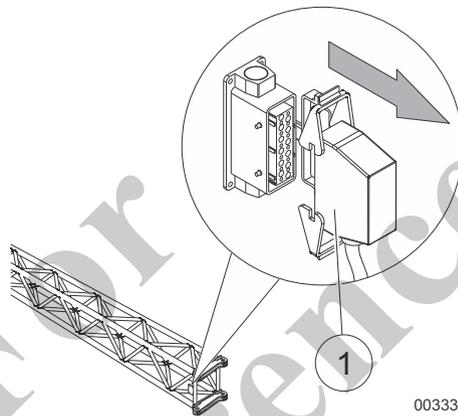

Fig. 160 Fly boom extension lifting limit switch cable
17	Remove the lifting limit switch cable of the fly boom extension (1) in Fig. 160 from the socket.